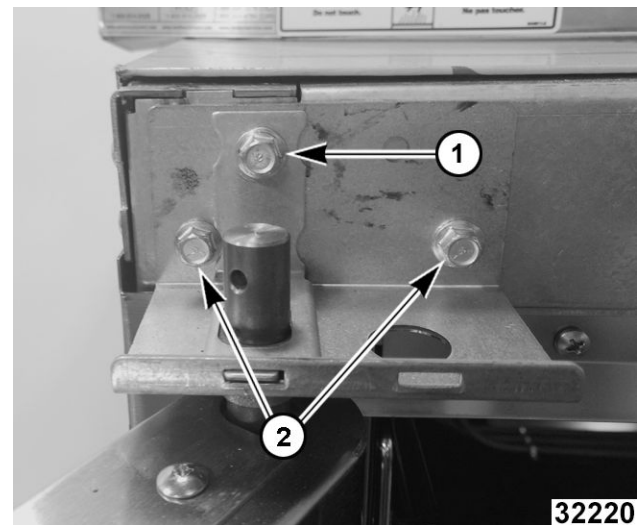

Fig. 53
- 6. While supporting door, remove hex head bolts holding upper bearing retainer (1, Fig. 53) and upper shaft bracket (2, Fig. 53).